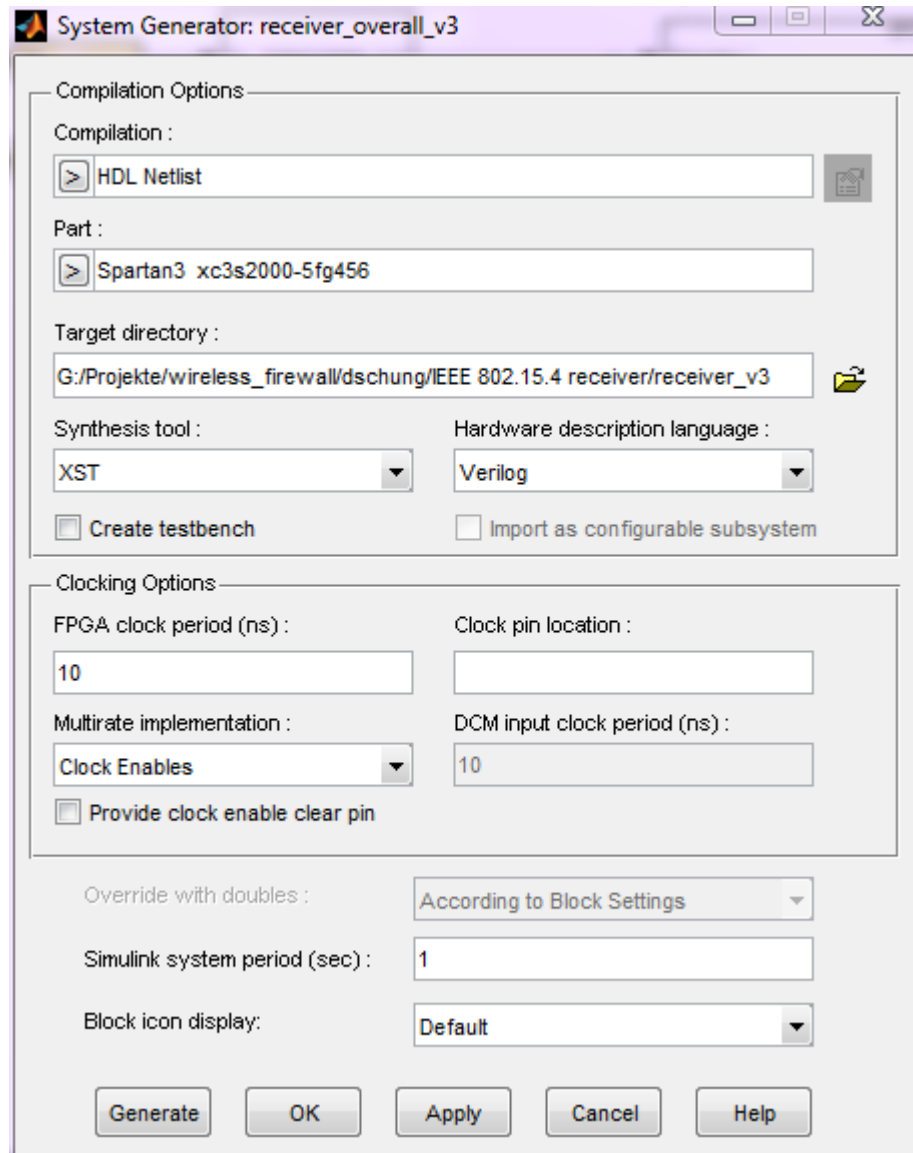

Figure 4: System Generator
- Every System Generator model needs a System Generator Block. The required settings for the USRP2 are shown in Figure 4.